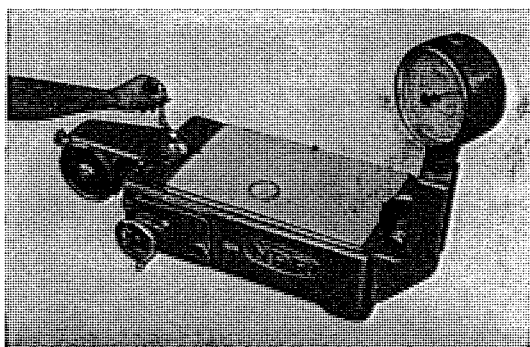

Fig. 3.104 Ring tension measurement
- Tension of the piston ring is measured with a tension measuring instrument as shown in the figure. (Refer to Fig. 3.104)